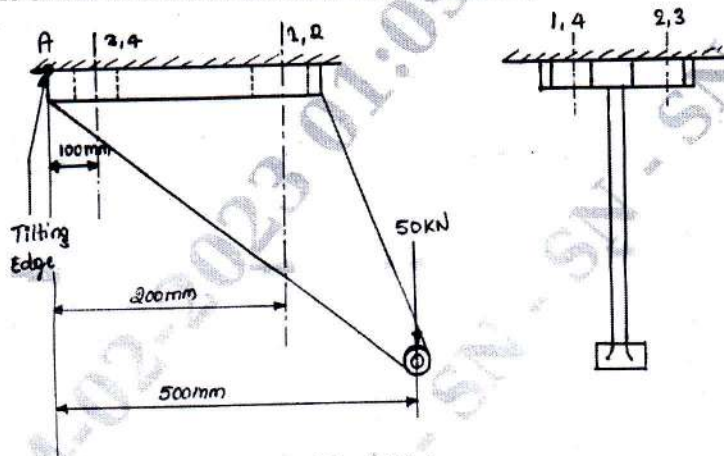

Fig.Q9(a)
- 9 a. A bracket shown in Fig.Q9(a) carries a load of 50 kN. Determine the size of bolt if the permissible tensile stress in the bolt material is 200 N/mm^2 .